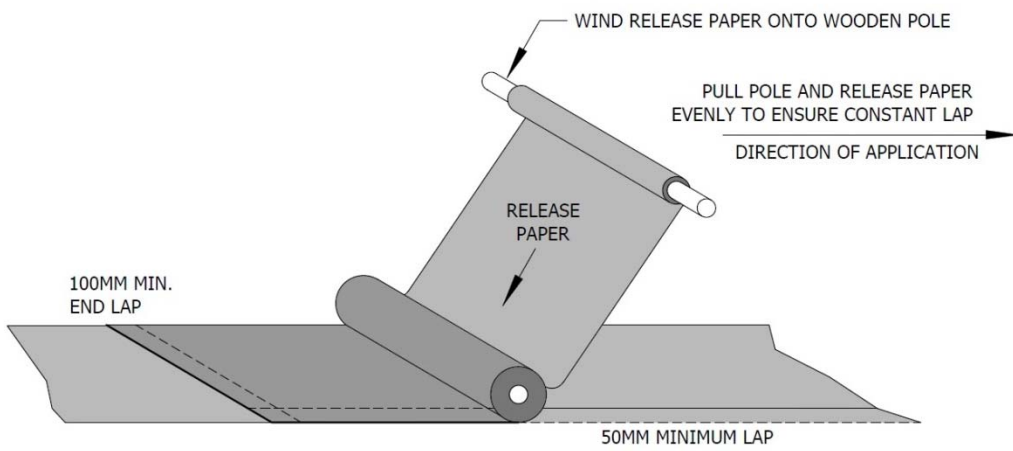

FIG. 4
- 3.6 Take up the release paper, preferably winding this onto a wooden rod, until it is at a comfortable angle for the first applicator. (See fig. 4).